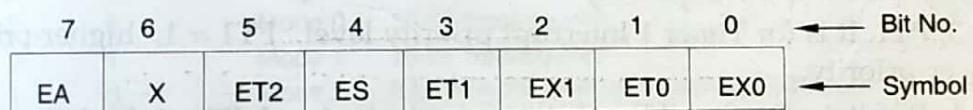

Fig. 10.4 Interrupt Enable Register IE (Bit Addressable)
**Enabling of 8051 Interrupts.** The 8051 contains an interrupt enable register IE. It is a special function register (SFR). Each of interrupt sources can be individually enabled/disabled by setting/clearing a bit in the interrupt enable register IE. It also contains a global disable bit, EA which can disable all interrupts, if it is made equal to 0 i.e. EA = 0. It is a bit addressable register. To enable an interrupt, the bit EA and the bit corresponding to the desired interrupt is set. Fig. 10.4 shows the details of bits of register IE.